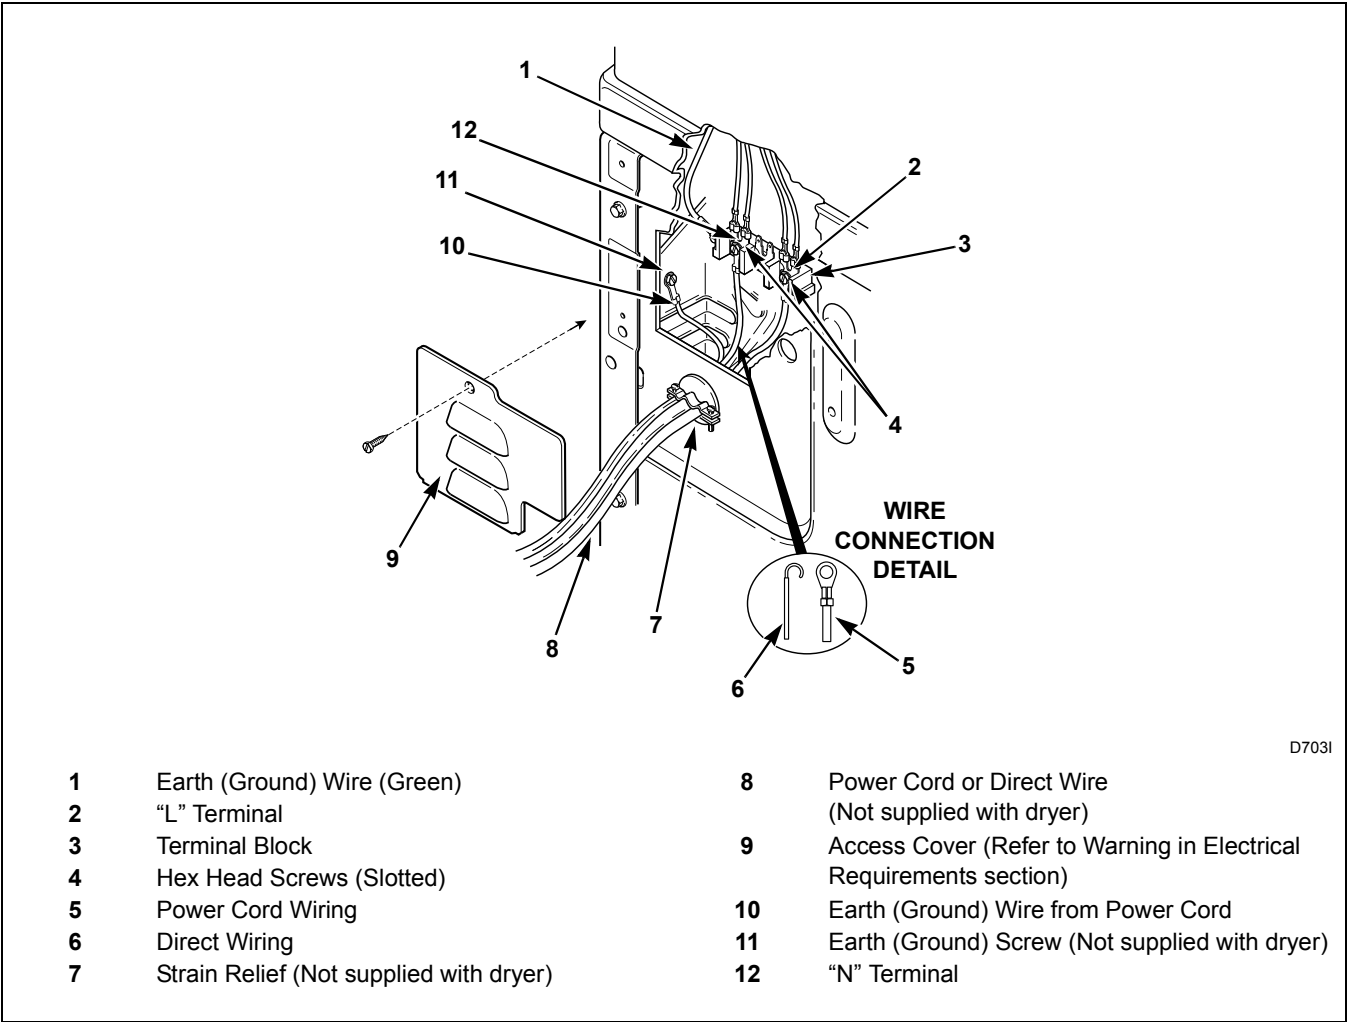

Figure 20
4. Attach ground (earth) wire to rear bulkhead as shown in *Figure 20* with grounding screw (obtain locally).